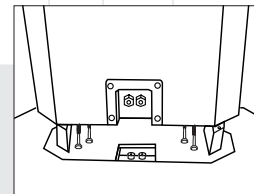

Figure 5
7. Carefully place the tower on the metal plate and secure it by screwing the 4 hex bolts removed in Step 1 through the bottom of the mounting plate and up into the tower module. Remember that the bolts must be screwed in clockwise from the point of view looking upwards at the bottom of the metal plate, and that this may be counter to your intuition. (Figure 5)